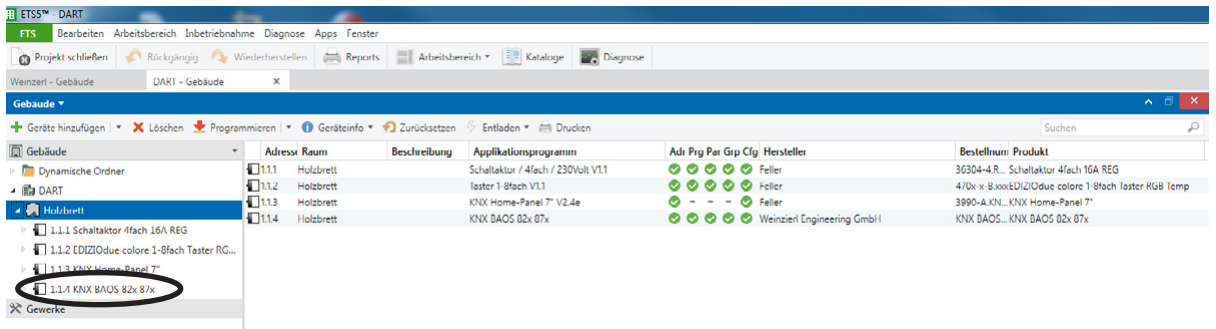

Fig. 4: Example of an existing project
4. Drag or copy the interface from the MN Option KNX project into your existing project (see Fig. 4).